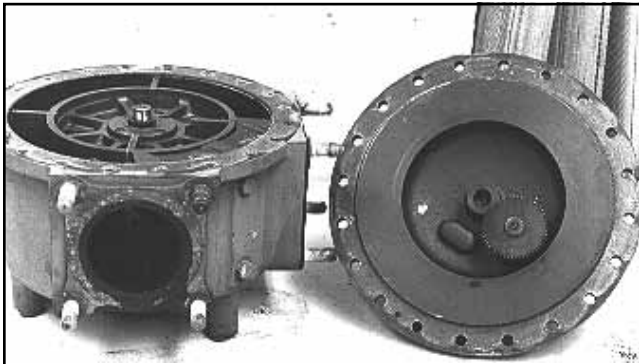

Figure 17
2. Remove meter housing cover, Figure 17.
- **At reassembly, care must also be taken that jack-shaft gear and rotor gear, Figure 17, are properly meshed when cover is secured to housing. This can be accomplished by slowly turning single pinion gear, on top of cover, until rotor and jack-shaft gears mesh.**